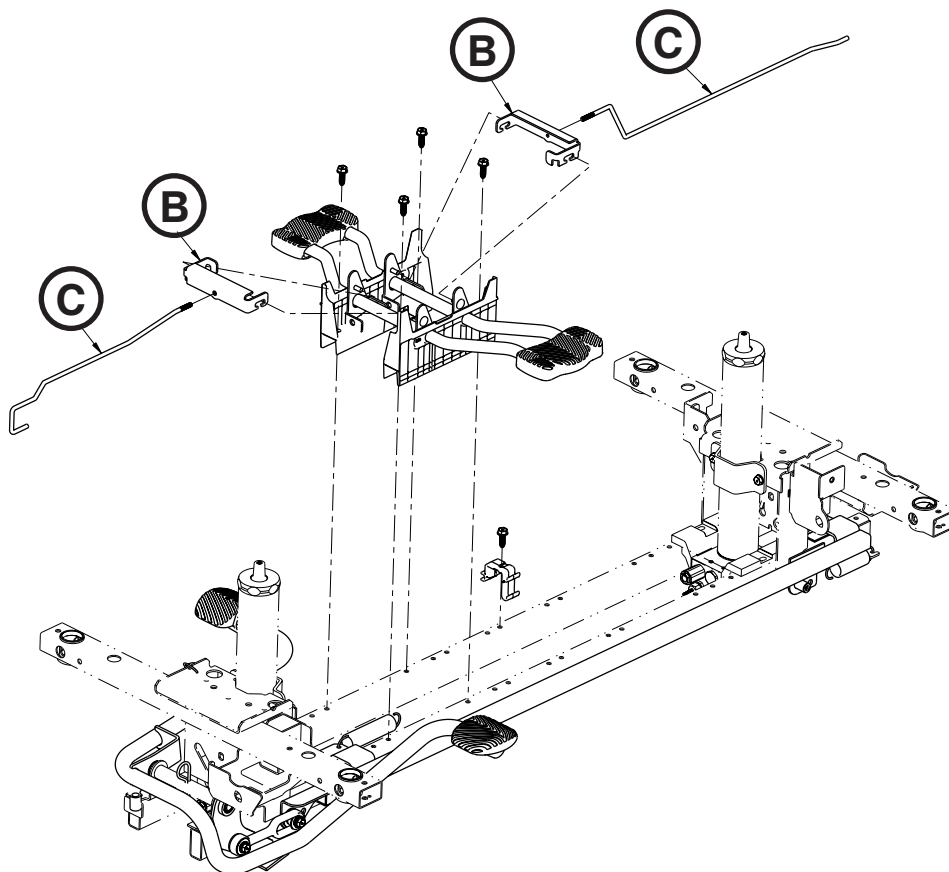

Figure 24
5. Manually disengage the release pedal swivel (B) from the release pedal assembly (Figure 24).
1. To increase the release rod engagement with the release valve, turn the release pedal swivel clockwise on the threaded release rod (C) (Figure 24).
2. To decrease the release rod engagement with the release valve, turn the release pedal swivel (B) counterclockwise on the threaded release rod (C) (Figure 24).
**Note:** If the release pedal swivel (B) is threaded too far onto the release rod (C), the release valve will be partially activated and the jack will drift (Figure 24).